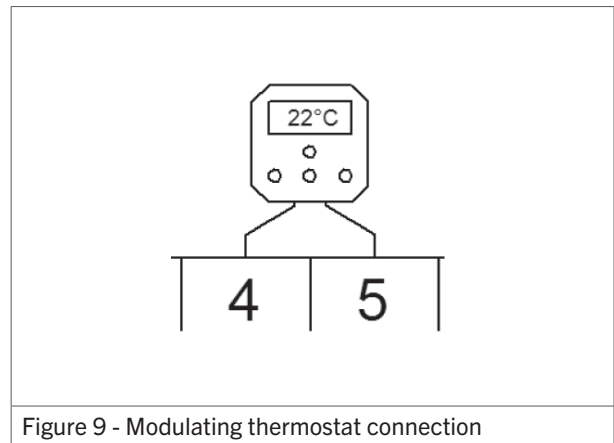

Figure 9 - Modulating thermostat connection
1. Connect the two control wires to terminals 4 and 5 (see figure 9 or the electrical wiring diagram in §11).